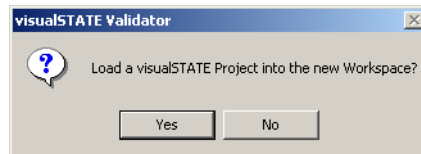

Figure 117: New Validator workspace dialog box
- 1 On the Validator menu, choose File>New Workspace. A dialog box will be opened. See *Figure 117*, page 152.